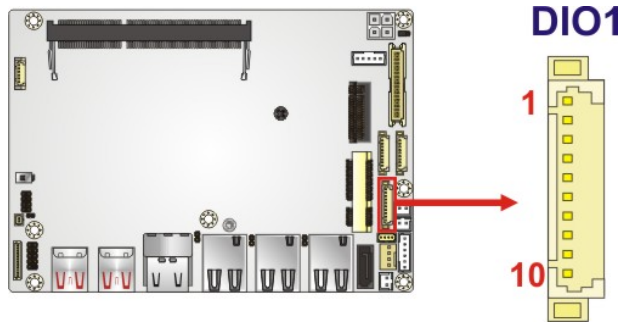

Figure 3-4: Digital I/O Connector Location
- CN Location:** See **Figure 3-4**